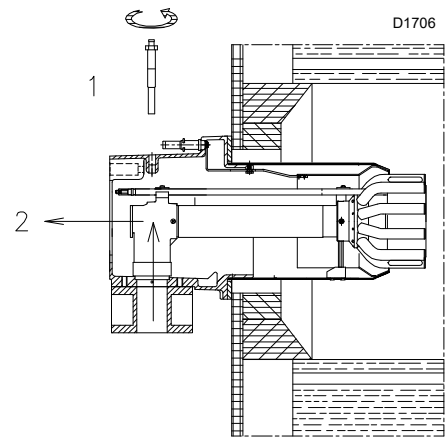

Fig. 13
- remove the screw 1)(Fig. 13)
- take out the inner part 2)(Fig. 13) of the head and then calibrate them.
At this point of the installation, the combustion head is fixed to the boiler as shown in Fig. 13. It is therefore especially easy to adjust, and this adjustment depends only on the maximum output of the burner.